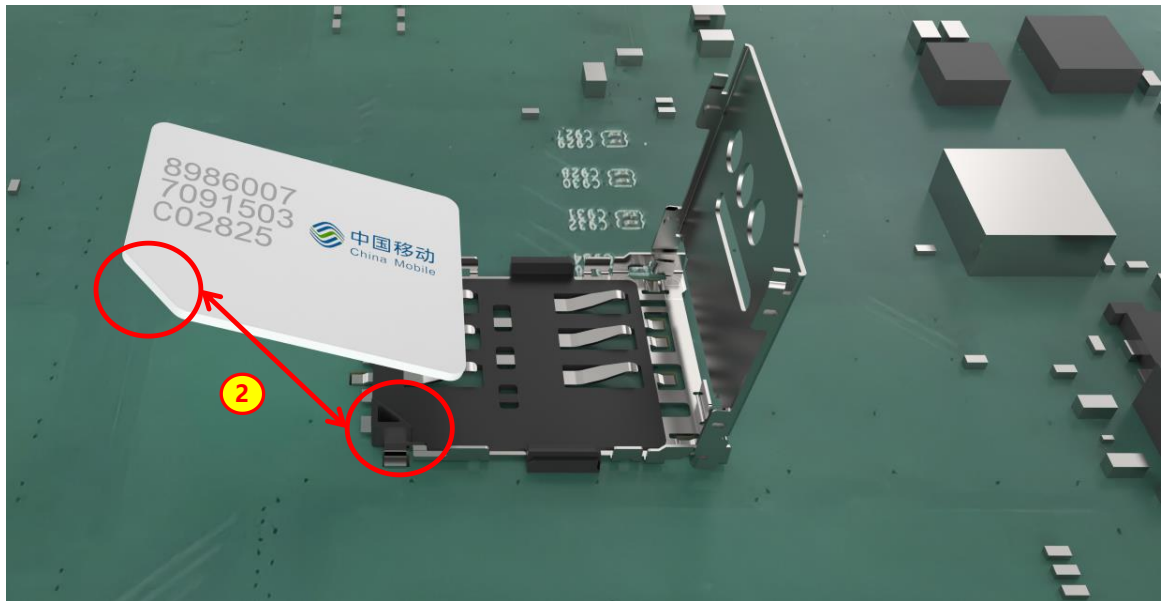

Figure 4-11: Open the Upper Cover of the SIM Slot
Step 2: Open the upper cover of the SIM slot, and orient the SIM card to align with the notch of the SIM slot (See Figure 4-11).